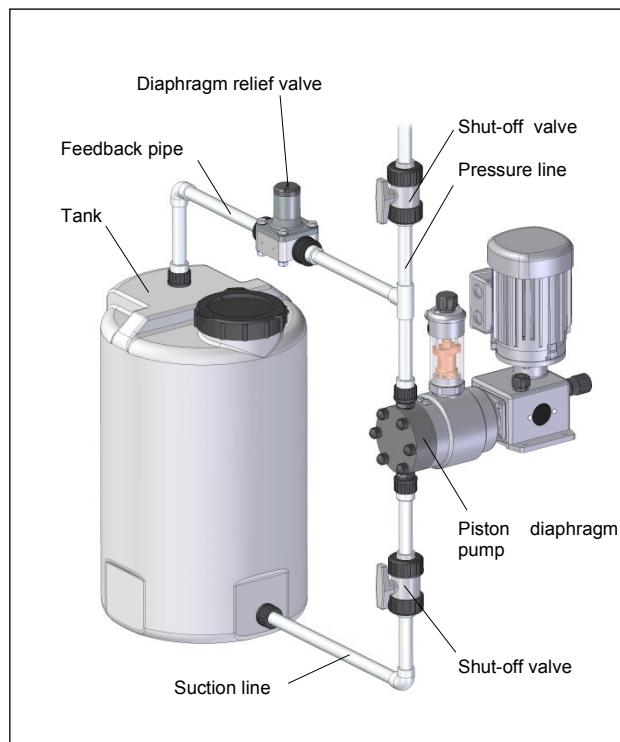

Fig. 22 Installation with (external) relief valve
- lead the overflow line with descending gradient in the store tank which is under atmospheric pressure or in an open drain gutter (see Fig. 22)